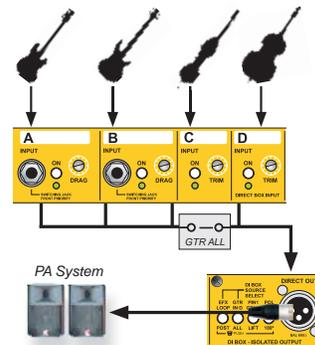

Fig.41- Four basses, both electric and acoustic are assigned to the DIRECT OUT and sent to the PA.
**EXAMPLE: ELECTRIC AND ACOUSTIC BASS GUITARS (Fig.41)**
Bass guitar is usually sent to both stage amps and the PA system. By setting the GTR switch to the inward position ( ALL  ), the PA will receive the bass signal from the DI out no matter which instrument is being used (Fig.41). Again, the bassist can turn on or off his stage amps and engage effects at will via the front panel controls or JR5 remote footswitch.